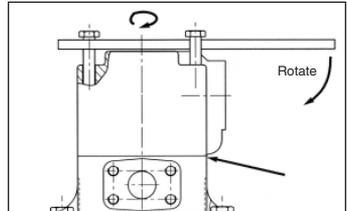

Fig. 14
4. Rotate the housing with a bar blocked between the two screws **(Fig. 14)**.